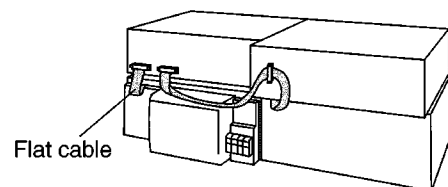

Fig. 7-2.
- Insert the flat cables at the back of the unit in the order indicated. Refer to Fig. 7-2.